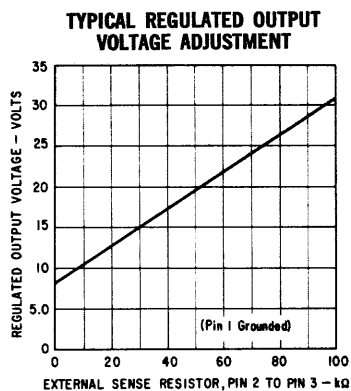

FIGURE 2
- (2) Selection of Output Voltages: By externally connecting a preselected sense resistor (see figure 2) between pin 2 and pin 3 any desired output voltage in the range of 8.5 V to 30 V is achieved.